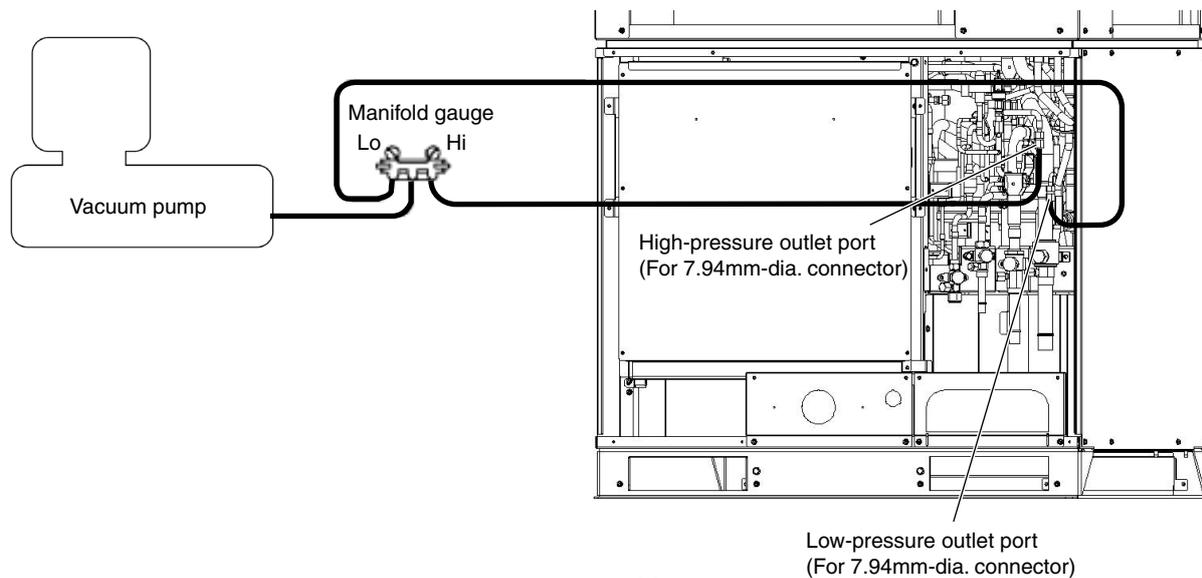

Fig. 11
- (1) Check that each service valve of the suction tube, discharge tube, liquid tube, and balance tube in the outdoor unit are fully closed.
- (2) Connect the manifold gauge valves to the high-pressure and low-pressure sensor outlets of the outdoor unit. (Fig. 11)
- (3) Connect the manifold gauge valves to the vacuum pump.
- * If the AP pins (CN102) on the outdoor control PCB have already been short-circuited, step (4) is not necessary.
- (4) Turn off power to the repaired outdoor unit and short-circuit the AP (Air Purge) pins on the outdoor control PCB.